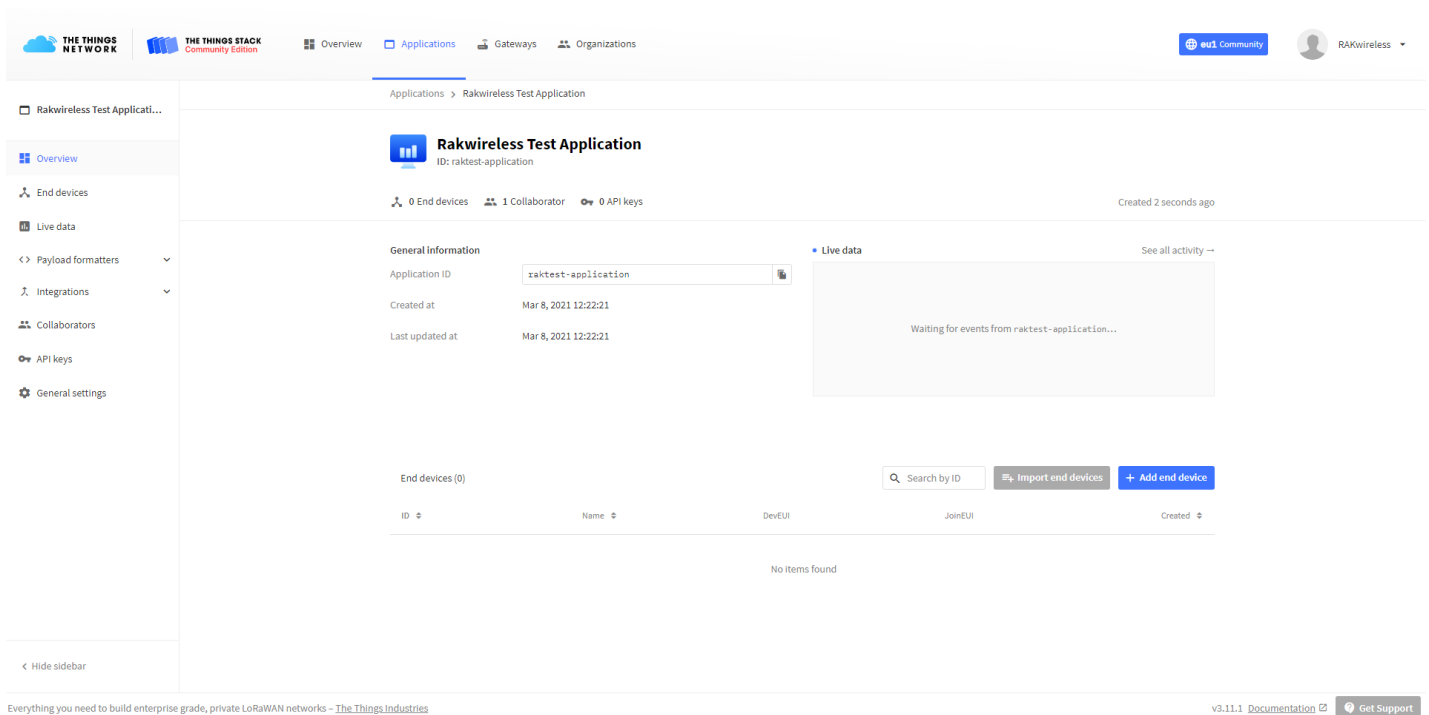

Figure 34: Application Overview
3. After you fill in the information, click **Create application**. If everything is filled in correctly, you will see the page in Figure 34.